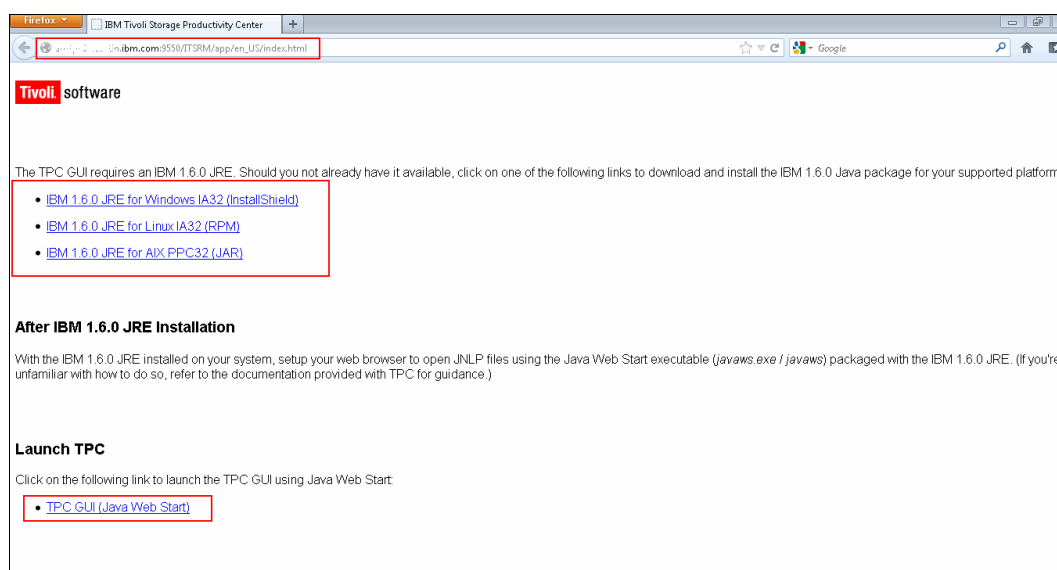

Figure 9-29 Tivoli Storage Productivity Center front page
1. Open your browser and use the following link to start Tivoli Storage Productivity Center, as show in Figure 9-29: